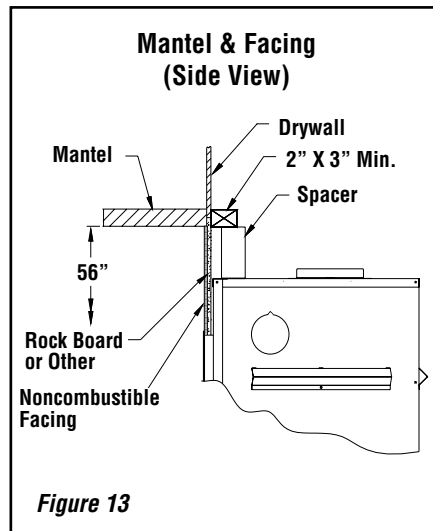

Figure 13
2. Non-combustible materials such as brick, stone or ceramic tile may project in front of and onto the fireplace facing (Figure 13).
The mantel must be installed at least 56" (1143 mm) above the base of the fireplace (Figure 13).